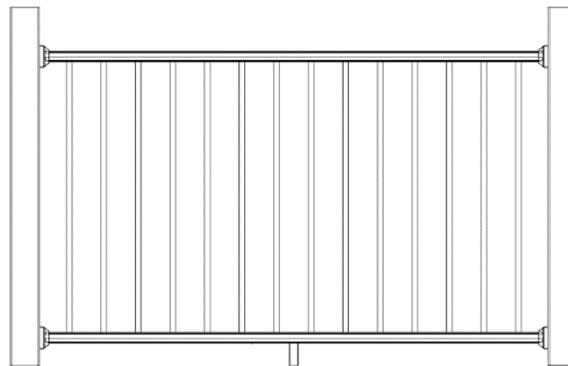

FIGURE 2 – CONTEMPORARY GRAB & GO M-PVC GUARDRAIL SYSTEM
**3.4.2** Contemporary Grab & Go Guardrail System (see Figures 2, 7, and 8), comprised of a single coextruded profile used for both the top and bottom rail. *Classic* round aluminum balusters are used (see Figure 9).